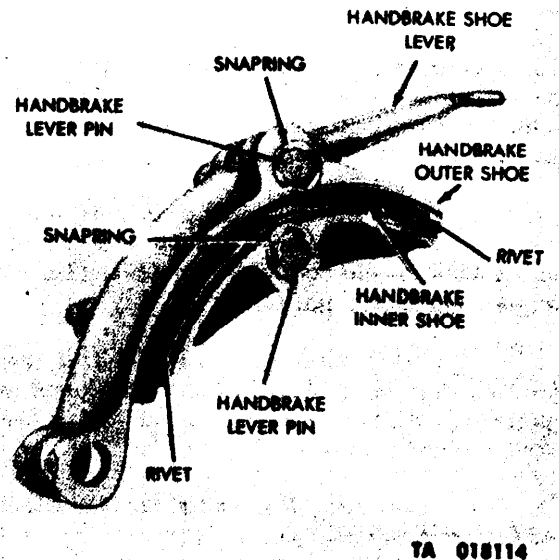

Figure 4-45. Handbrake Shoe — Disassembly.
(1) Remove the two snaprings holding the handbrake lever pins in position. (See fig. 4-45.)
(3) Remove the handbrake shoe lever and lever pins. (See fig. 4-45.)
(4) Remove the 16 rivets securing the inner and outer brakeshoes to the handbrake assembly. (See fig. 4-45.)
- a. Handbrake (fig. 4-45).